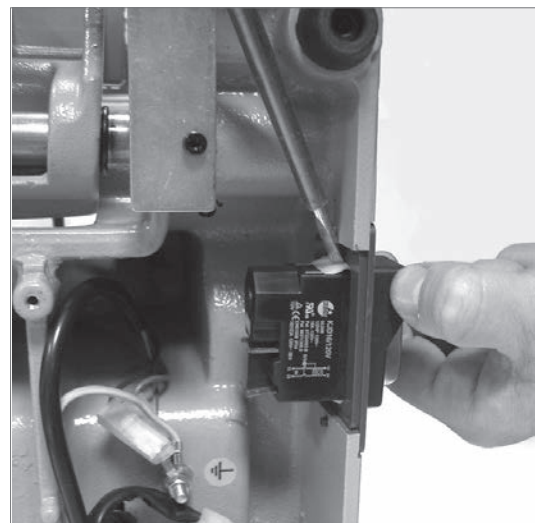

Fig. 58
- 3) Remove the switch making pressure on the tabs with a screwdriver (Fig. 58).